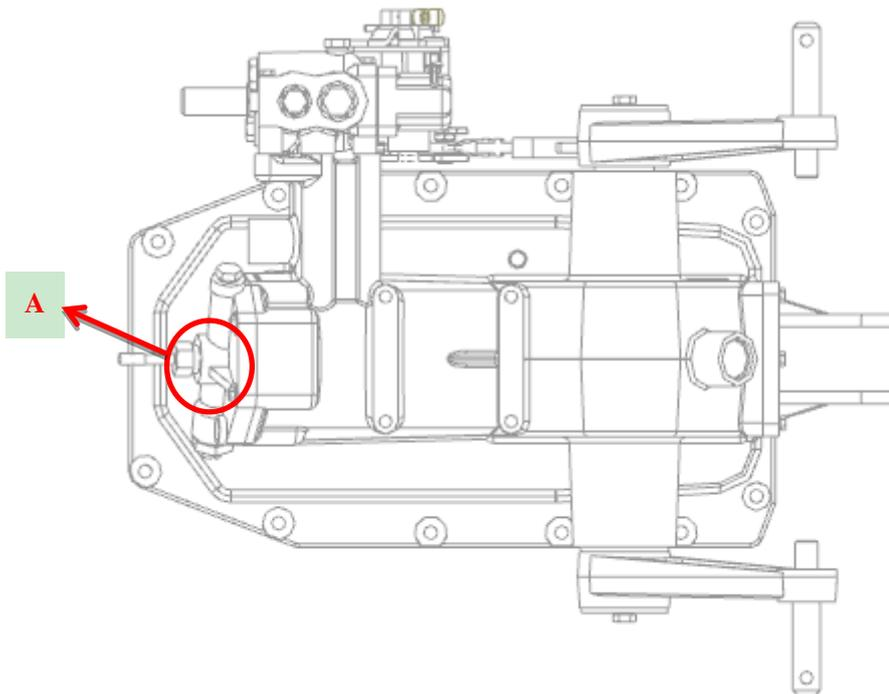

Fig. 3-15 Adjustment of Lowering Speed
- The lowering speed of farm implements will be increased by rotating the adjustment knob A anticlockwise; (refer to Fig. 3-15).